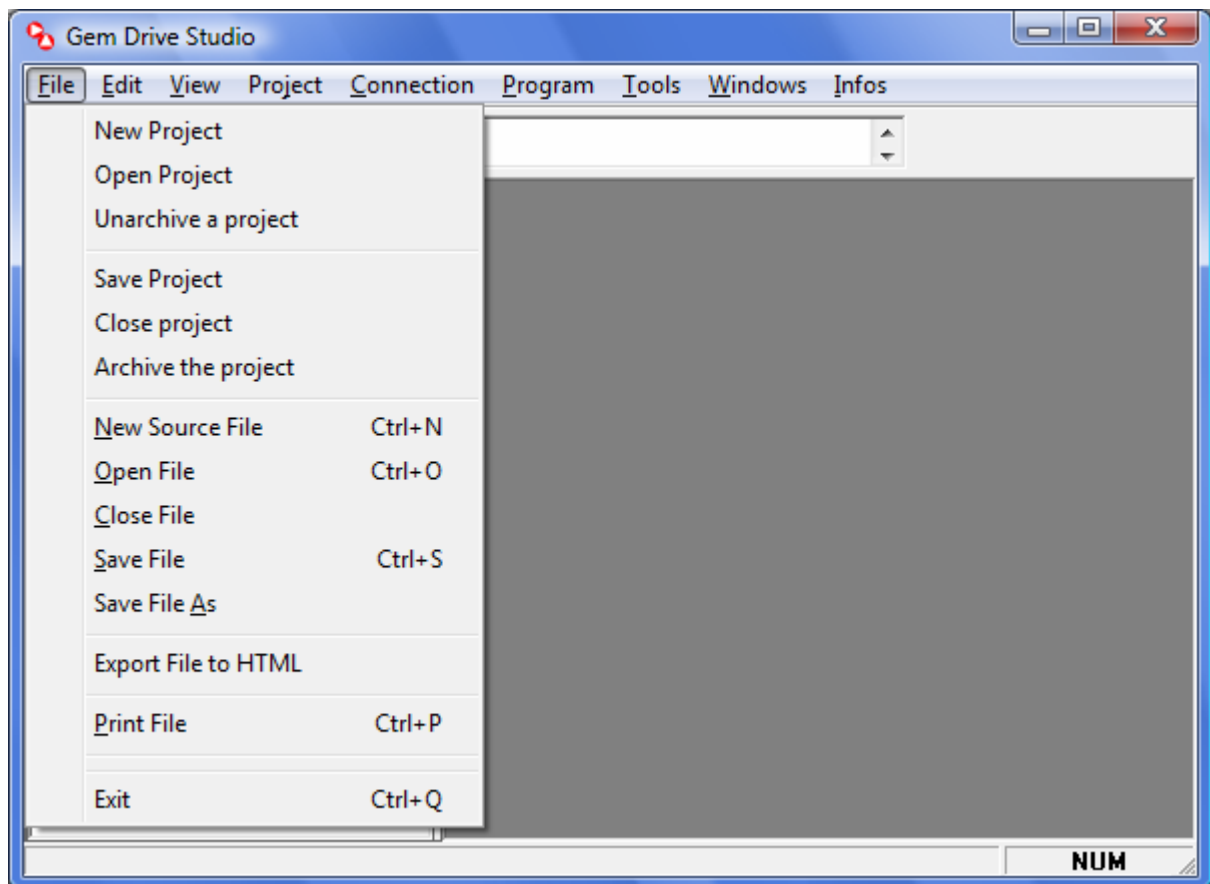

Figure 4-4: *Gem Drive Studio* File Menu.
1. From a *File Menu: New Source File* (see Figure 4-4),
2. Open a source file from a *File Menu: Open Source File* (see Figure 4-4) or